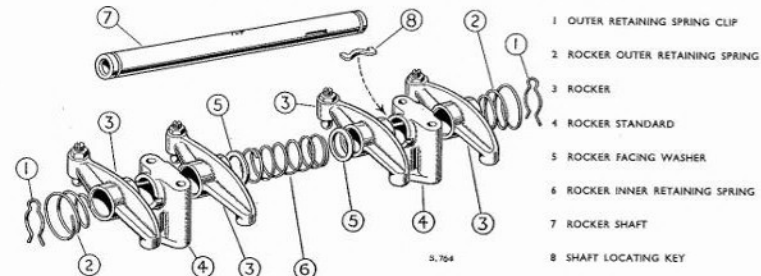

Fig. B.21. Rocker shaft details
Dismantling the rocker shaft assemblies is an identical and straightforward operation involving the removal of the spring clip from one end of the rocker shaft, when it is possible to slide off the rockers, standards, springs and washers from the shaft (see Fig. B.21).
1. Fit a spring clip to one end of the rocker shaft and slide on the components in the following order (see Fig. B.21):